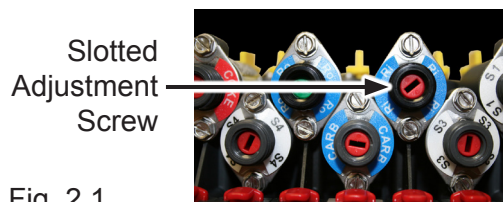

Fig. 2.1
- B. To adjust flow control assembly remove the red cap to expose the slotted red adjustment screw (Fig 2.1). To regulate flow, turn clockwise to increase flow and counterclockwise to decrease flow. If the flow control assembly contains a slotted green adjustment screw it is mechanical. To regulate flow, turn counterclockwise to increase flow and clockwise to decrease flow (opposite flow control). Standard settings can be found on Page 12.